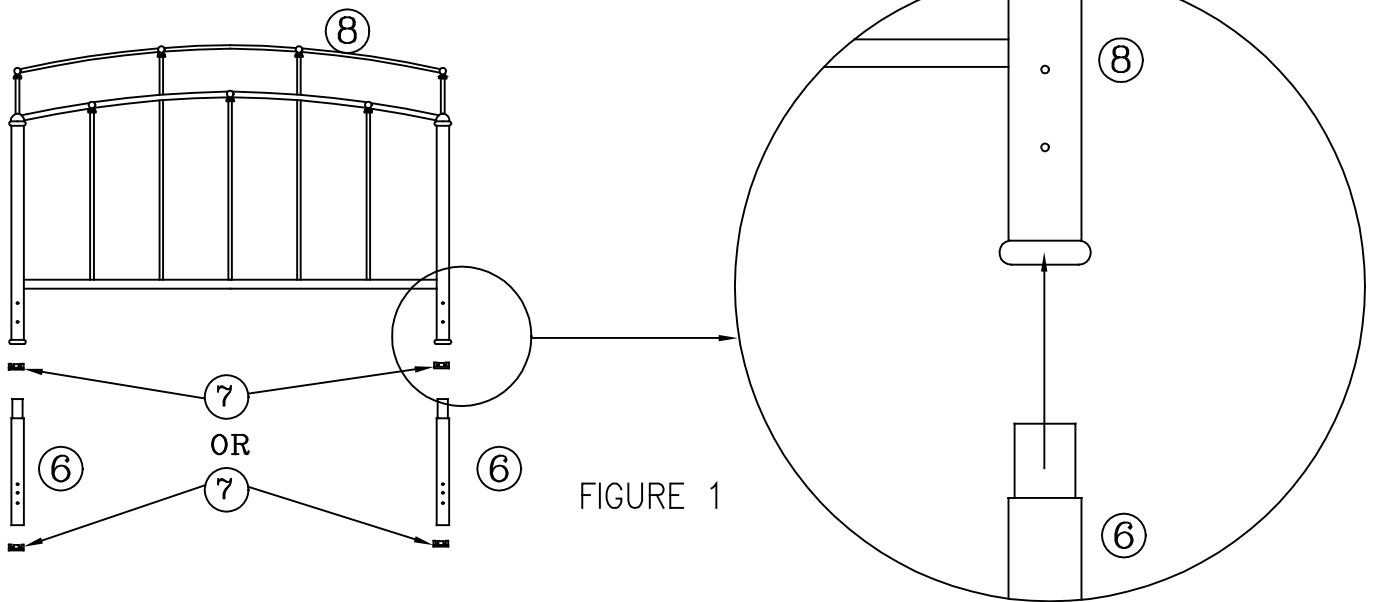
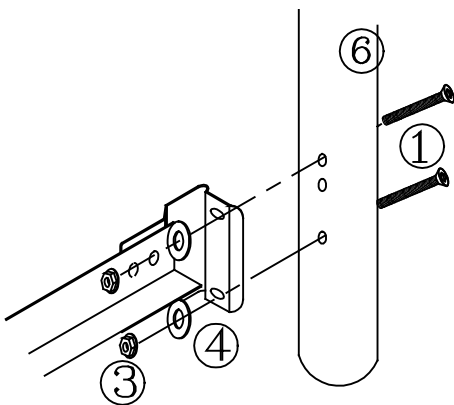
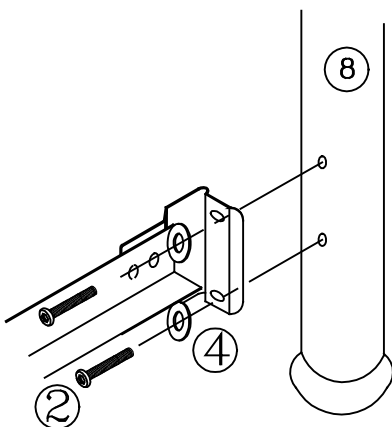

FIGURE 1
FIGURE 2
FIGURE 3
NOTE: This product can be used as Headboard only or as Headboard/Footboard bed. Insert plastic glide (7) into leg extension (6) for headboard assembly. For footboard assembly insert plastic glide (7) into bottom of panel (8) posts. See Figure 1
- Align top reduction of extension legs (6) with bottom of headboard posts. (See Figure 1) Make sure the 3 holes on extension legs are perpendicular to headboard panel.
- Now carefully insert extension legs (6) into bottom of panel (8) posts.
- Place 2 screws (1) through holes located in leg (6). (See Figure 2)
- Place a flat washer (4) first and then a nut (3) on each screw. Hand-tighten, DO NOT TIGHTEN screws all the way.
- Discard Leg extension (6) for footboard attachment to frame.
- Position footboard panel and align holes in the panel (8) post with holes in the frame bracket. See figure 3
- Place flat washer (4) on each screw (2). Insert through bracket and into post. Hand-tighten, DO NOT TIGHTEN screws all the way.